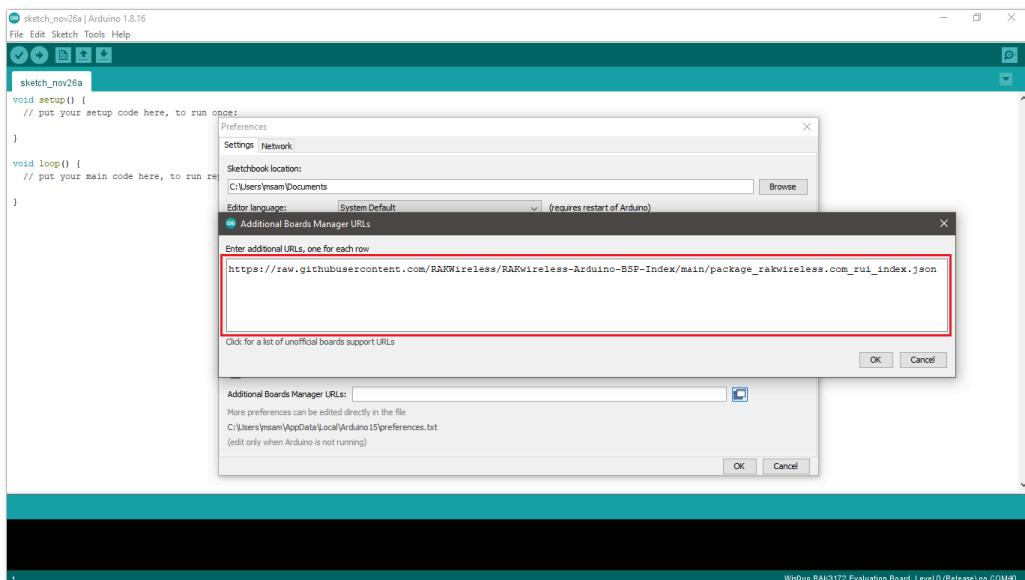

Figure 6: Add additional board manager URLs
3. Copy the URL https://raw.githubusercontent.com/RAKWireless/RAKwireless-Arduino-BSP-Index/main/package_rakwireless_com_rui_index.json and paste it on the field, as shown in **Figure 6**. If there are other URLs already there, just add them on the next line. After adding the URL, click **OK**.